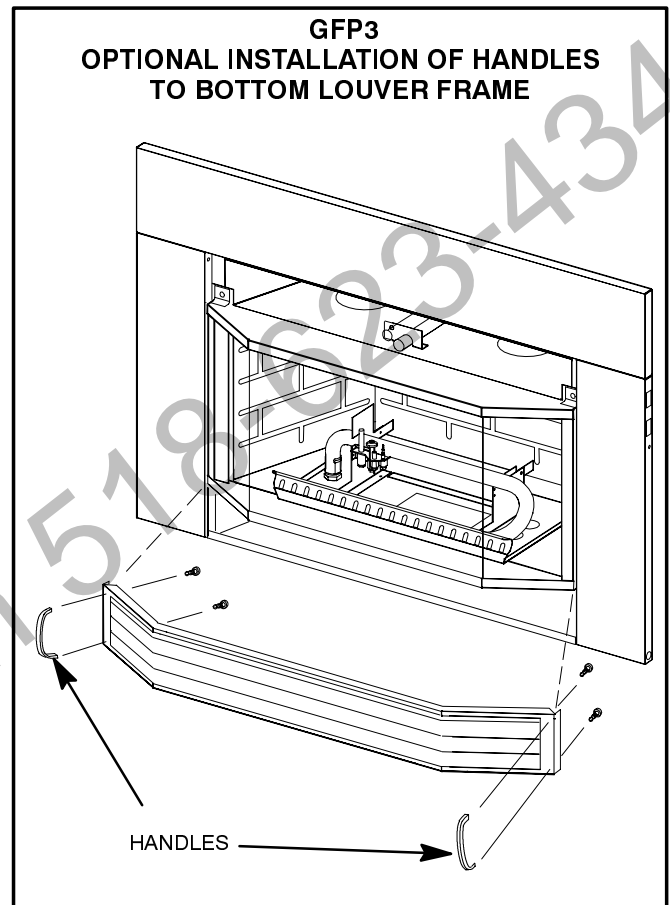

FIGURE 2
- 13 - *GFP3 Only* - Two handles are supplied with the unit and may be installed on the bottom louver frame, if desired. See figure 2. Carefully remove the four hole plugs from the bottom louver frame. Install the two handles using the four provided screws.